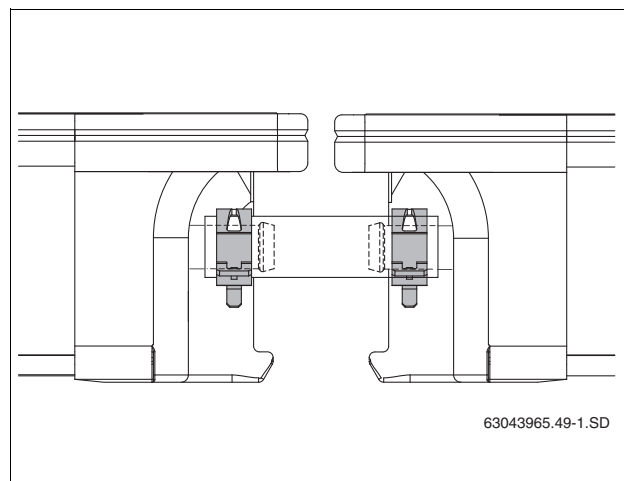

Fig. 50 Solar hose with secured hose clamps
- ▶ Secure every solar hose to the collector connection using a hose clamp (Fig. 50).